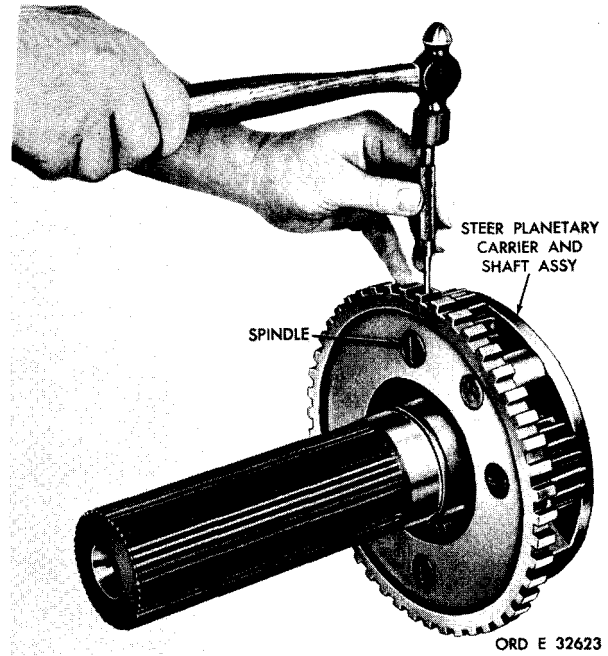

Figure 204. Removing (or installing) spindle lock pin
g. Using a hammer and punch, remove four steer planetary carrier spindle lock pins (fig. 204).
j. Install lock pin 10 (fig. 378, fold-out 7) using a hammer and punch. Drive lock pin in 0.030 to 0.060 inch below the carrier surface (fig. 204). Stake metal over the pin.